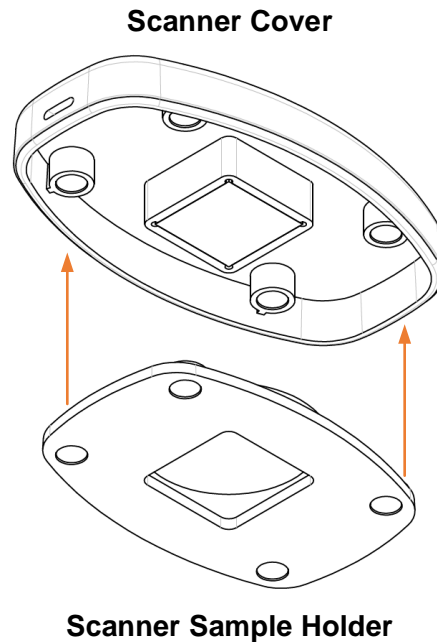

Figure 2 Attaching the sample holder to the scanner cover
- C. **Scanner Sample Holder:** It is provided to facilitate the measurement of some types of samples like soil, feed, powders,...etc, however the scanner can be used without it. It is magnetically attached to the scanner cover and needs to be detached from it when used (Figure 2). The sample holder can be magnetically attached and aligned on the scanner top surface to hold the sample during scanning.